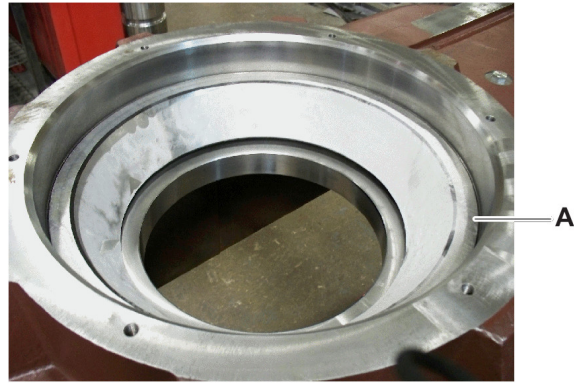

Figure 1
1. Remove the bearing cup (Figure 1, item A) from the freezer and press the frozen lower spindle bearing cup into the housing. Make sure that the bearing cup is seated tightly against the mounting surface in the housing.